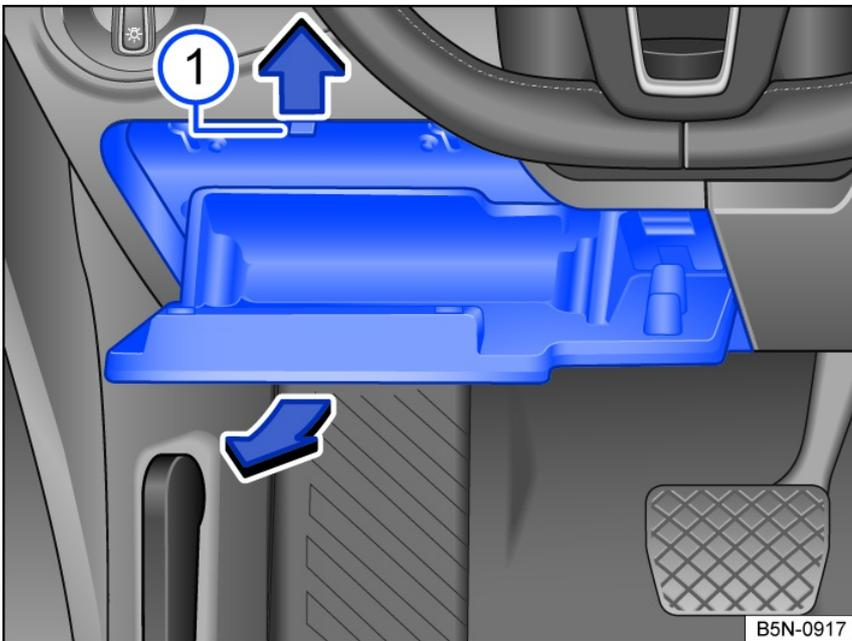

Fig. 176 Fuse box cover on the instrument panel: To the left of the steering wheel in left-hand drive vehicles.
- Open the storage compartment on the driver's side and empty it, if necessary *fig. 176*.
- Push the limit stop up, open the driver side storage compartment further in the direction of the arrow, and pull it out *fig. 176* ①.
- Close the driver side storage compartment a little way, pushing up the limit stop if necessary *fig. 176* ①.